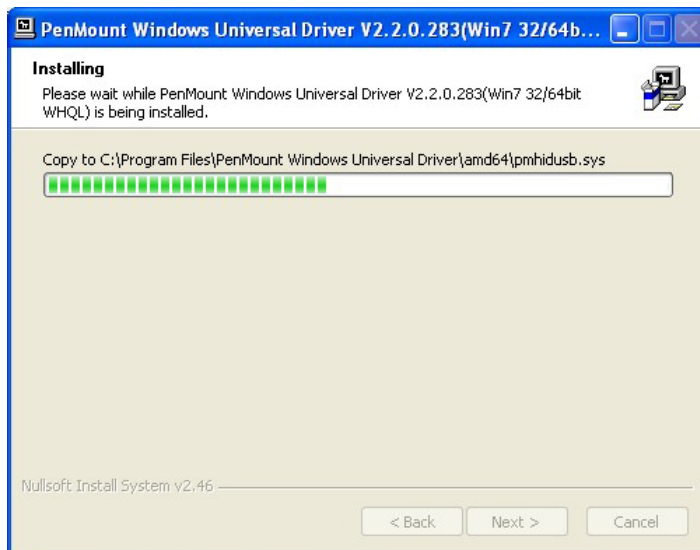

Figure 7-5: Installation Starts
Step 15: The installation of the program begins. See **Figure 7-5**.